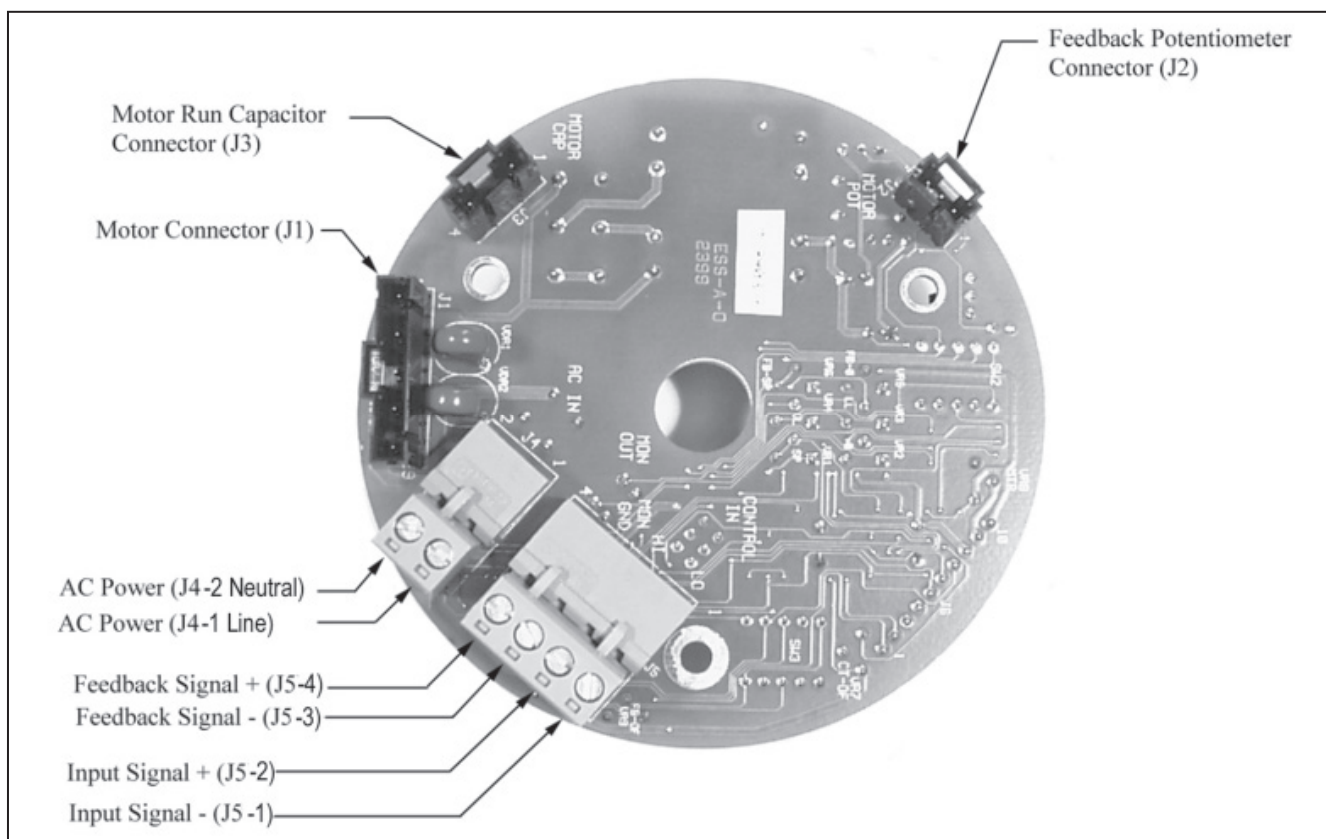

Figure 13. Circuit Board, Bottom
3. Compare wire colors of new feedback potentiometer connector to wire colors of old feedback potentiometer connector. When placement of wires is different install jumper cable (ordered with new feedback potentiometer) between P2 and J2 (*Figure 13*).